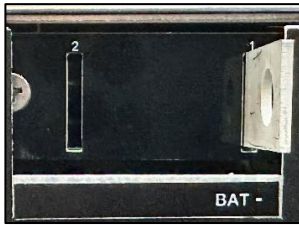
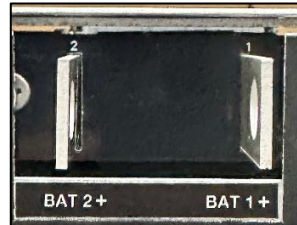

Figure 3. The BMM
Figure 4. The BMMDP
- Verify the polarity of the BMM installed in the unit by noting the label under the rear BMM BAT bus bar input. The "BAT +" indicates a positive battery voltage system with the LVD contactor and battery breaker internally connecting this terminal to the shelf "+" output, while the "BAT -" indicates a negative battery voltage system, with the LVD contactor and battery breaker internally connecting this terminal to the shelf "-" output (see Figure 3 and Figure 4).